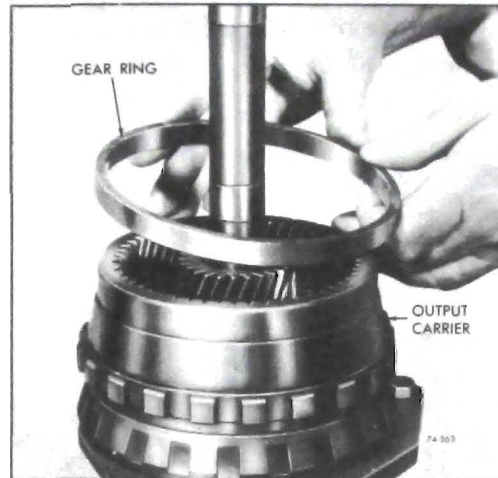

Figure 76-563
5. Remove front internal gear ring from output carrier assembly. See Figure 76-563.